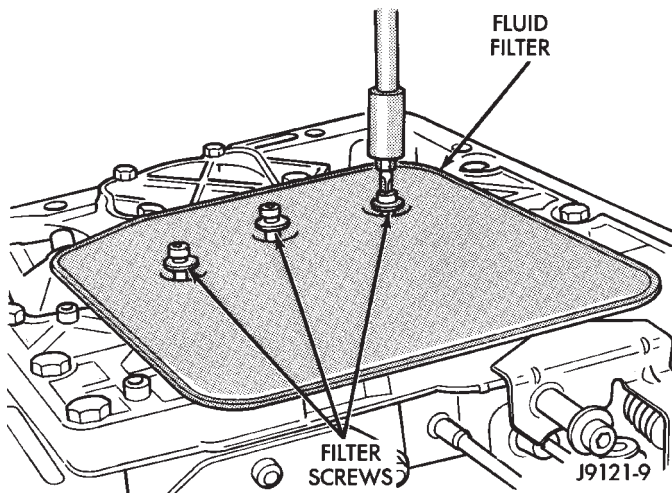

Fig. 162 Fluid Filter Installation
(11) Install new filter on valve body (Fig. 162). Tighten filter screws to 4 N·m (35 in. lbs.).